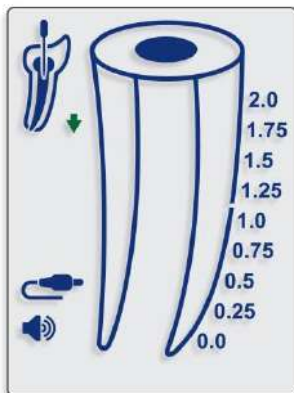
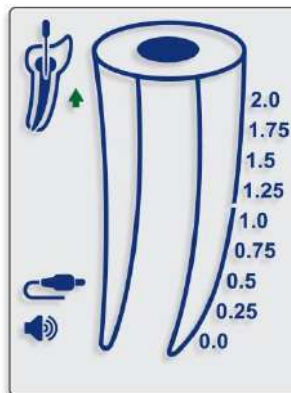

Fig. 5
Fig. 6
5.4.11. Movement of the file inside the canal is reflected by the DOWN (Fig. 5) and UP (Fig. 6) arrows on the screen.